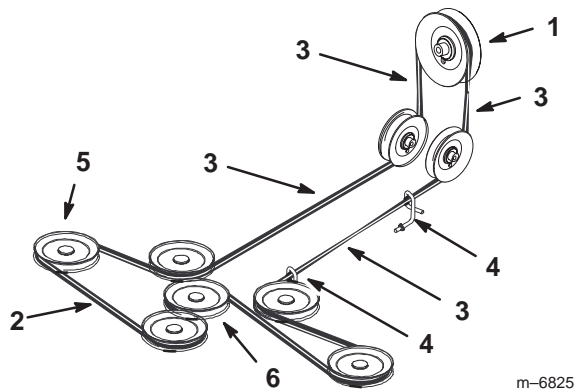

Figure 70
5. Install the new mower belt around the mower spindle pulleys, mower idler pulley, into the belt guides, into rear idler arm assembly, and the clutch (Fig. 70).
Important Check the amount of twist in the belt between the pulleys. Make sure it is only what is specified in Figure 70.